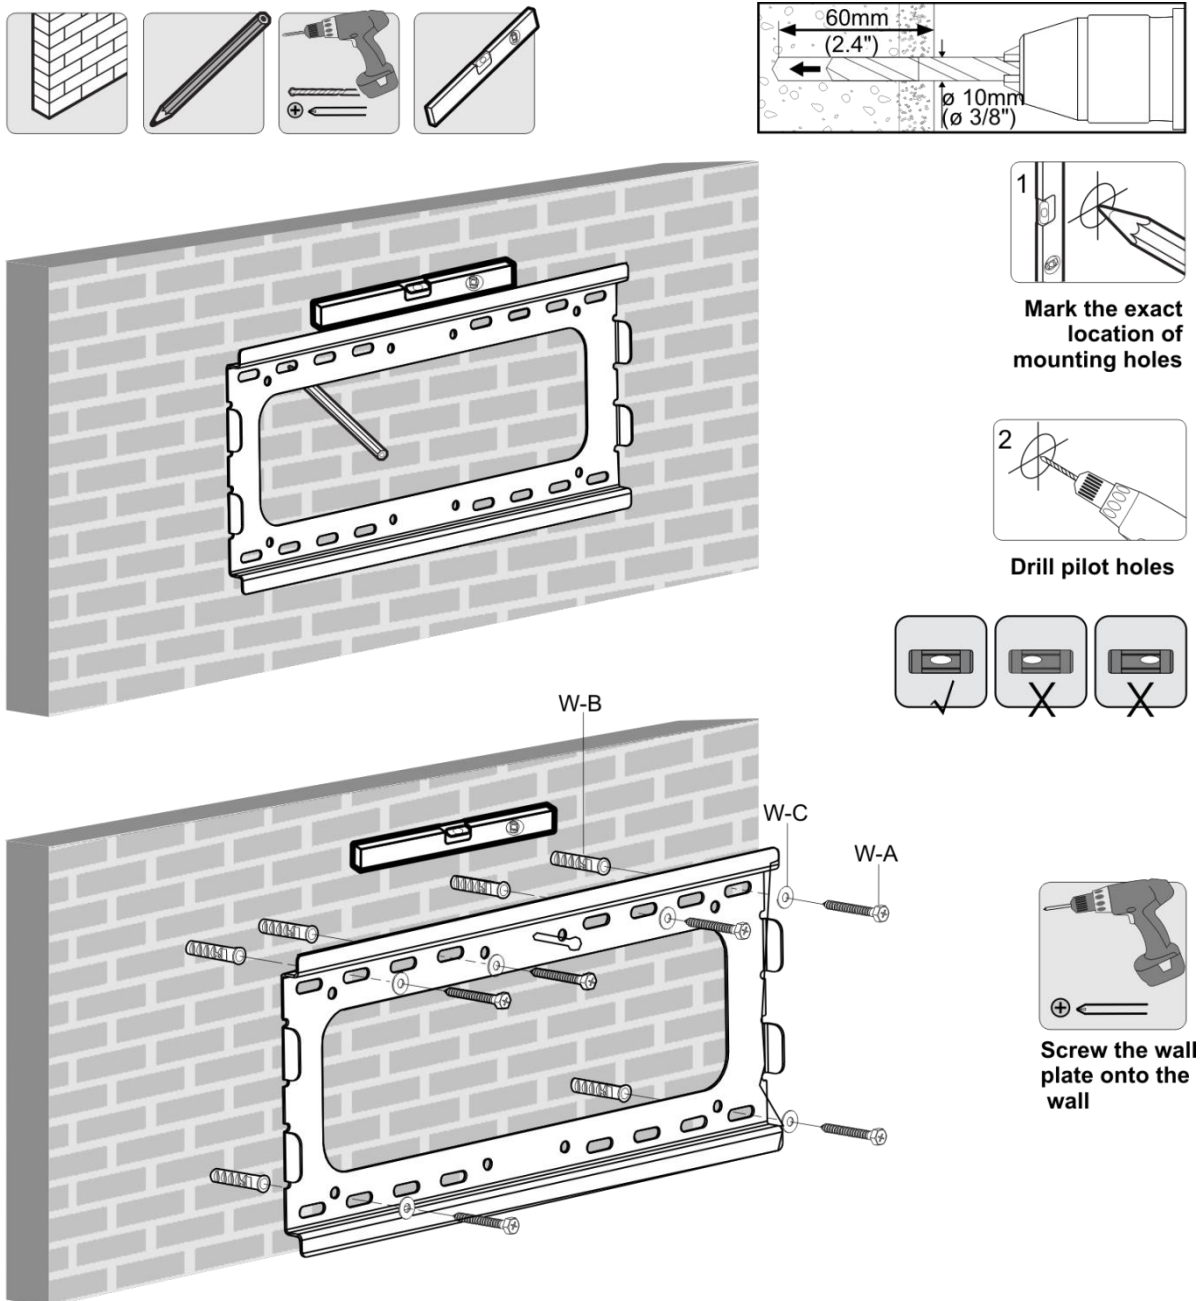

Fig. 03
- Use the wall plate as a template to mark the 6 holes on the wall. Four in the top row slots and two more in the bottom row, as shown in Fig. 03.
- Attach the wall plate to the wall by using 6x lag bolts (W-A) and 6x M6 washers (W-C), as shown in Fig. 03.